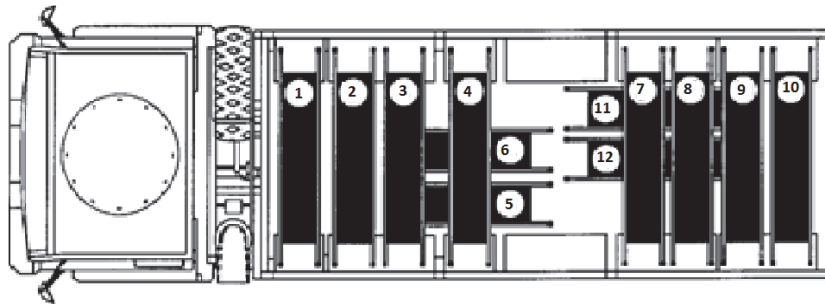

Figure 3-14. Load an M-1085
2. Direct nonmedical Soldiers to load an M-1085. (See Figure 3-14.)